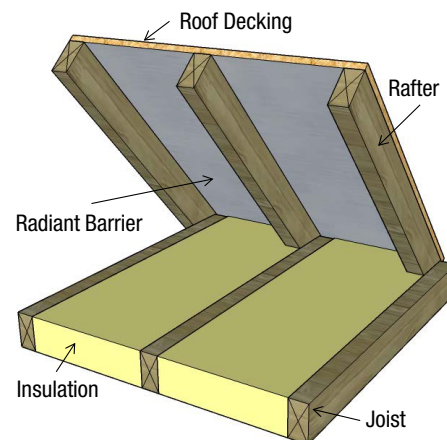

Figure 2 - Skipped sheathing removed, solid roof decking with radiant barrier laminated to the underside installed over rafters.
2. Remove the existing skip sheathing, and install new solid roof decking with a laminated radiant barrier (Figure 2).